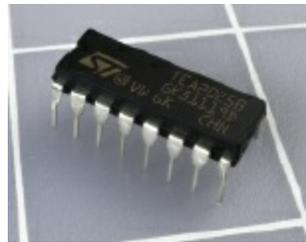

Figure 5-36. This single chip contains a stereo amplifier capable of delivering a total of 5 watts into an  $8\Omega$  speaker when the two channels are combined.
- Audio amplifier, STMicroelectronics TEA2025B or similar. Quantity: 1. See Figure 5-36.